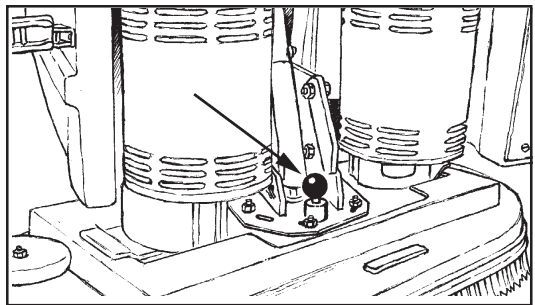

Figure 15
4. Raise plunger pin and rotate brush head. See figure 15.